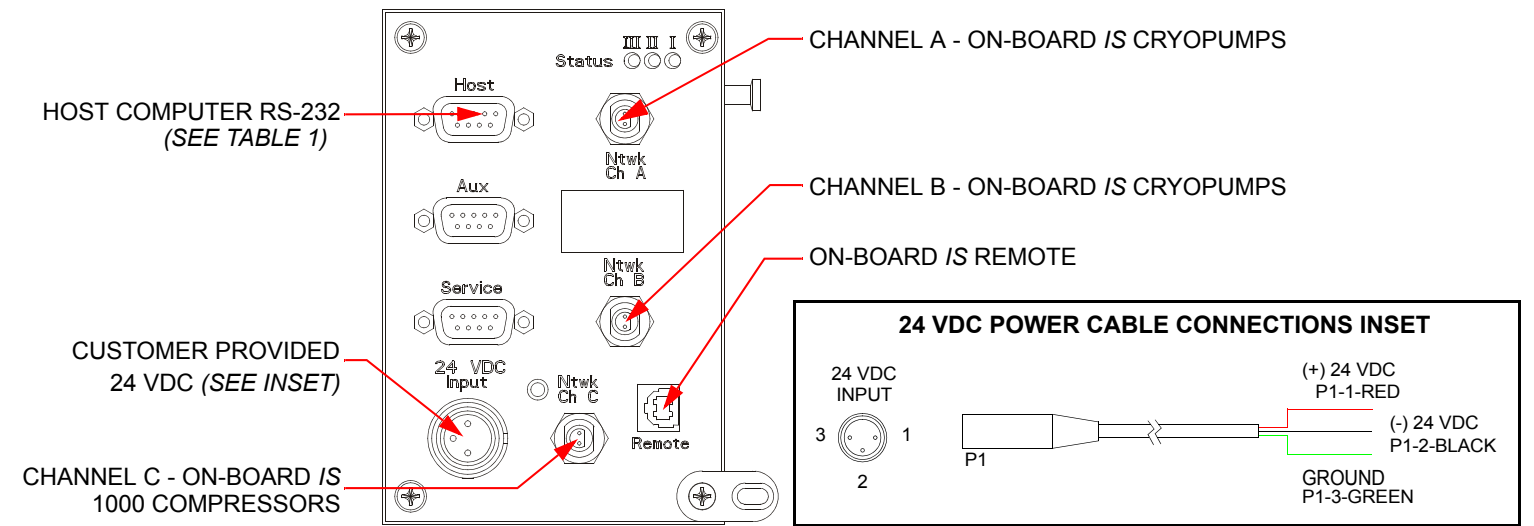
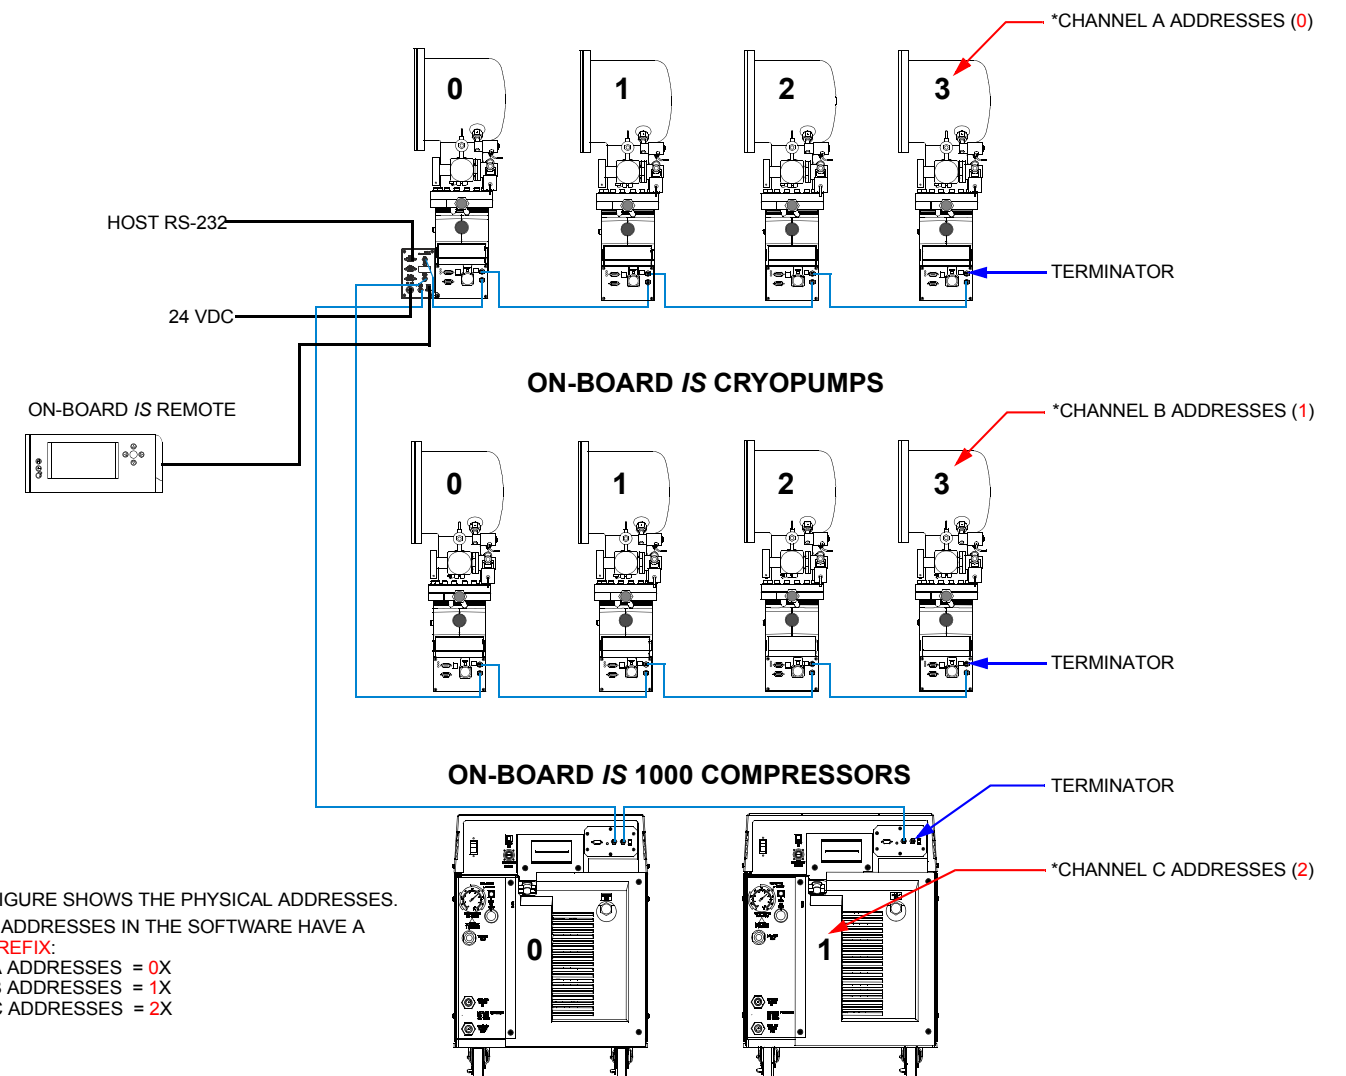

Figure 2: On-Board IS Controller Cable Connections
Figure 3: On-Board IS Cryopump and Network Connections
2. Use the Remote keypad (part number 8187007K00, see Figure 3) to go to the *On-Board IS Controller* screen.
1. Connect the Channel A Network Cables between the On-Board IS Controller and On-Board IS Cryopumps as shown in *Figure 2* and *Figure 3*.
2. Connect the Channel B Network Cables between the On-Board IS Controller and On-Board IS Cryopumps as shown in *Figure 2* and *Figure 3*.
3. Connect the Channel C Network Cables between the On-Board IS Controller and On-Board IS 1000 Compressors as shown in *Figure 2* and *Figure 3*.
7. Connect the power supply power cable to a customer provided 24 VDC power source as shown in *Figure 2*. Status III (LED) blinks when the On-Board IS Controller is communicating with the network.